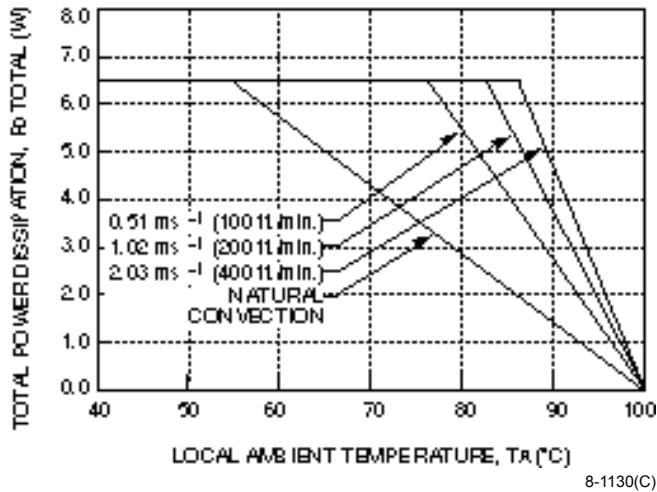

Figure 28. Total Power Dissipation vs. Local Ambient Temperature and Air Velocity
The maximum operating temperature of the CC025 Triple-Output-Series Power Modules at a given operating condition can be predicted by combining the power dissipation curves (Figures 23 through 27), the power derating curve (Figure 28), and the thermal resistance curve (Figure 29).
6. Use the estimated total power dissipated ($P_{D\text{total}}$) along with Figure 28 to determine the maximum ambient temperature allowable for a given air velocity.
Figure 28 shows that in natural convection the maximum operating ambient temperature for this module is approximately 66 °C.
The air velocity required to maintain a desired maximum case temperature for a given power dissipation and ambient temperature can be calculated using Figure 28 and the following equation:
This corresponds to an airflow greater than 0.38 ms^{-1} (75 fpm) in Figure 28.